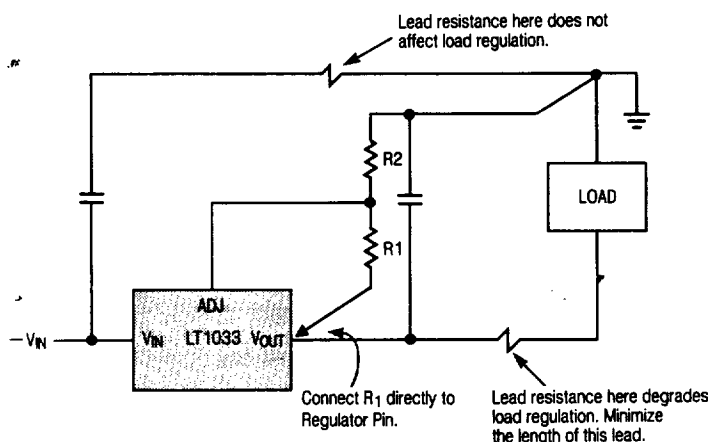

Figure 3
**Proper Connection of Divider Resistors:** The LT1033 has a load regulation specification of 0.8% and is measured at a point  $1/8"$  from the bottom of the package. To prevent degradation of load regulation, the resistors which set output voltage, R1 and R2, must be connected as shown in Figure 3. Note that the positive side of the load has a true force and sense (Kelvin) connection, but the negative side of the load does not.